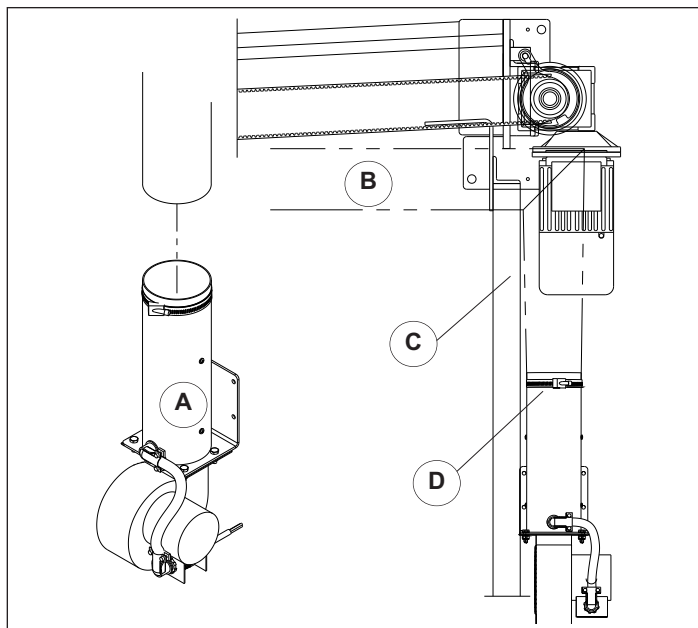

Figure 13.1
1. Mount the blower unit (A) to the wall in line with the 90° extension (B) of the air seal (B). No part of the blower should be to the inside of the support post (C), **Figure 13.1**.
3. Place air seal (B) around the tube on the blower unit, remove wrinkles and strap in place with the clamp (D). Thermal Air seal outlet is high temp fabric, do not replace or add to it.